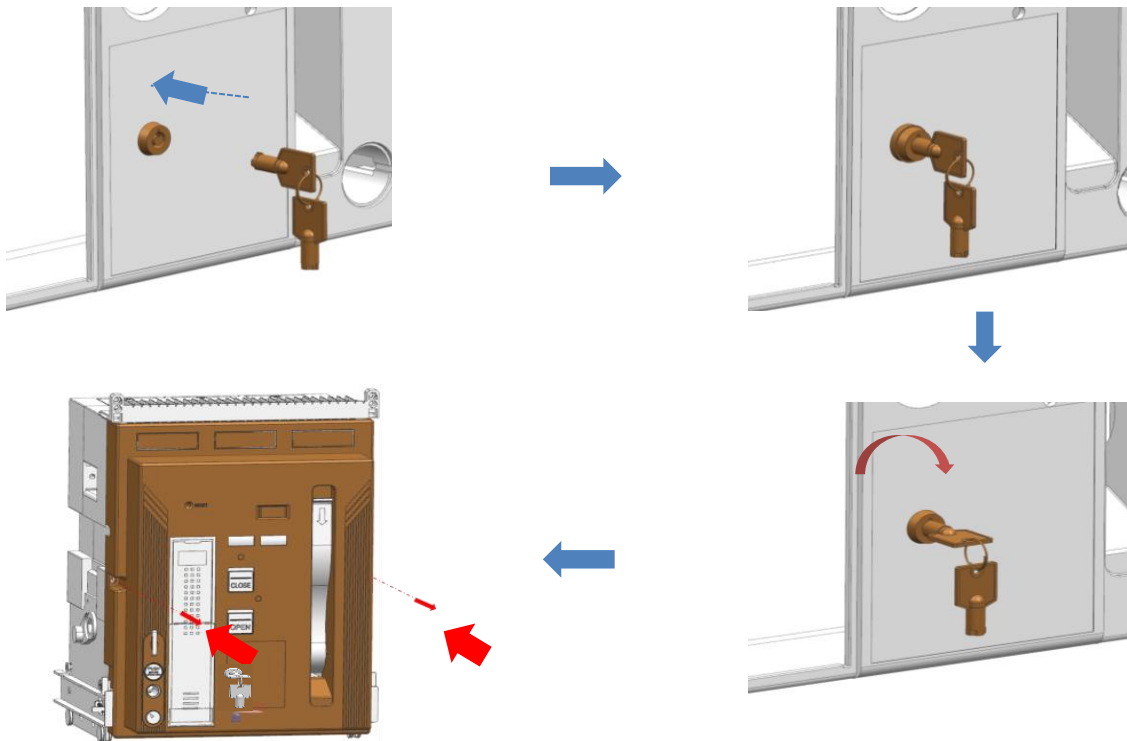

FIG 5
완료 하십시오. [FIG 5]
5. Be sure to insert the KEY into KEY LOCK and rotate the KEY to 3o'clock position as shown in the fig6 below. After that, Pull manual steering to insert Front Cover. And then, complete assembly after inserting both-side screws. [FIG 5]